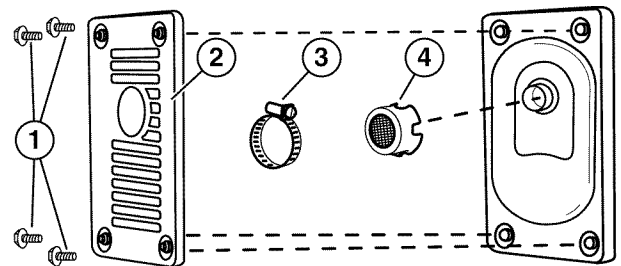

Figure 42 – Spark Arrester Assembly
4. Using a flathead screwdriver, loosen the spark arrester band clamp (see Figure 42).